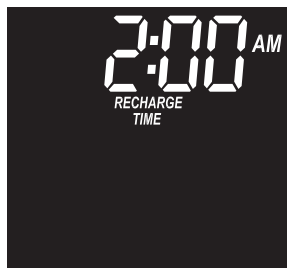

FIG. 31
1. Press the PROGRAM button and hold for three seconds, until the “Recharge Time” screen (Figure 31) is displayed.